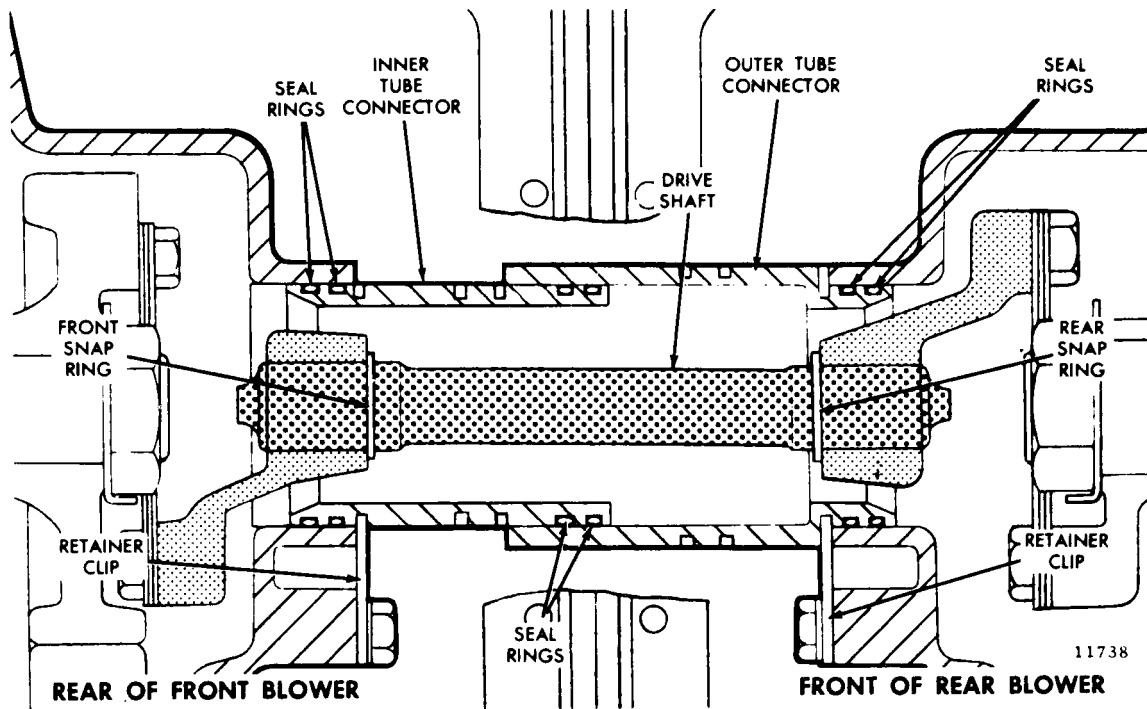

Fig. 4 - Tandem Blower Drive Shaft and Coupling Installation
11. Disconnect the center drive shaft and tube connections on 12V and 16V engine tandem blower applications as follows (Fig. 4):
12. Remove the four (4) bolts and washers securing each blower to the block.
3. Remove the ten (10) 3/8"-16 x 3-1/4" bolts, lock washers and plain washers securing each of the blower end plate covers to the rear of the front blower and the front and rear of the rear blower. Remove the blower end plate covers and gaskets.
4. Remove the three (3) 7/16"-20 x 7/8" self-locking bolts securing each blower drive coupling hub to the R.H. helix timing gear of each blower (Figs. 4 and 5). Remove the hub and spring plate assemblies.